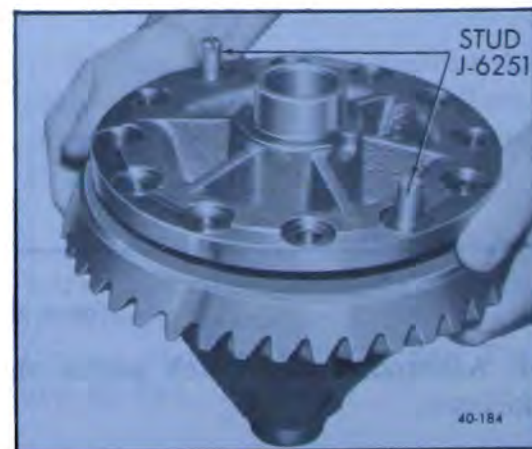

Figure 40-184—Installing Ring Gear on Differential Case
1. If ring gear was removed, install ring gear on case flange using studs as shown in Figure 40-184.